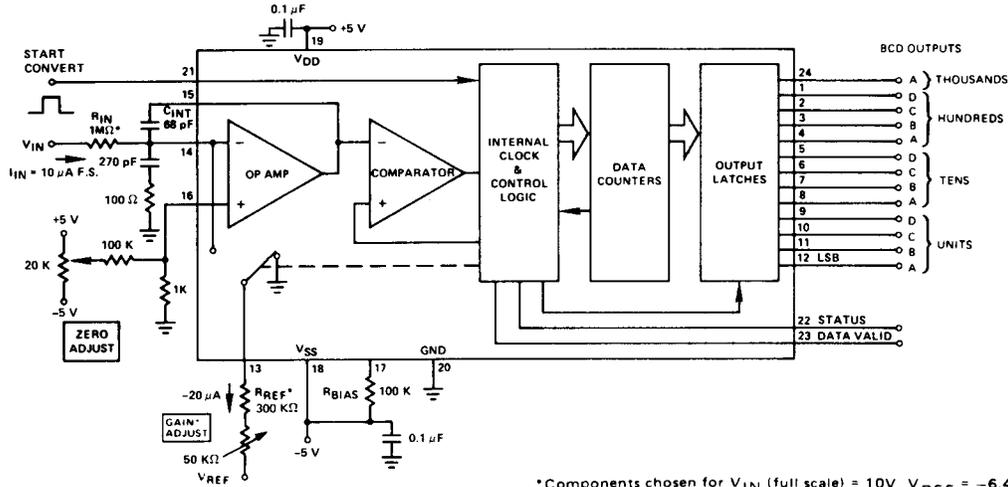

Figure 2. Functional Block Diagram
① This pin is connected to the summing junction of an operational amplifier. Voltage sources cannot be attached directly but must be buffered by external resistors. See Figure 2.